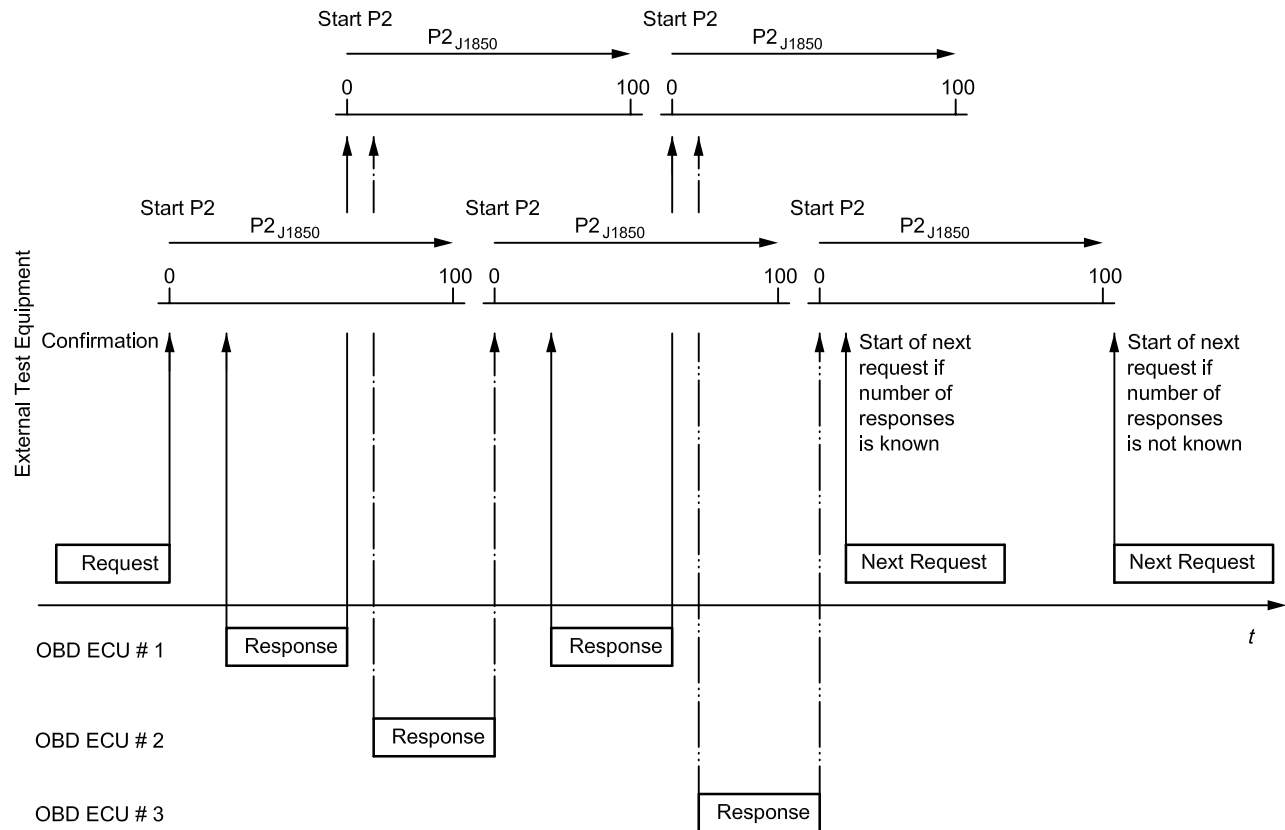

FIGURE 5 - SAE J1850 APPLICATION TIMING PARAMETER OVERVIEW
- e. Upon the reception of the negative response message within the client, the client network layer generates a N\_USData.ind. The reception of a negative response message with response code 78 hex causes the client to continue its P2CAN timer in order to observe other servers to respond within P2CAN. In addition, the client establishes an enhanced P2\*CAN timer for observation of further server #1 response(s). The client shall store a server identification in a list of pending response messages. Once a server that is stored as pending in the client starts with its final response message (positive response message or negative response message including a response code other than 78 hex), it is deleted from the list of pending response messages. For simplicity, Figure 5 only shows a single negative response message including response code 78 hex from server #1.
- f. Server #2 transmits a FirstFrame of a multi-frame response message within P2\*CAN. The reception of the FirstFrame is indicated in the client network layer by a N\_USDataFF.ind. Figure 5 shows when the client receives the start of the response message of the second server.
Figure 5 shows an example of a request message followed by four (4) response messages and another request message.